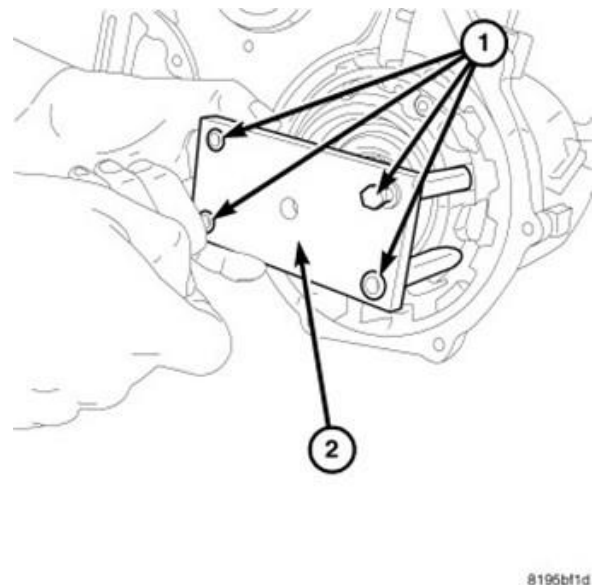

Figure 27 – Puller Adapter
39. Install Puller Adapter 9908 (2) to the compounder bearing retainer (Figure 27).